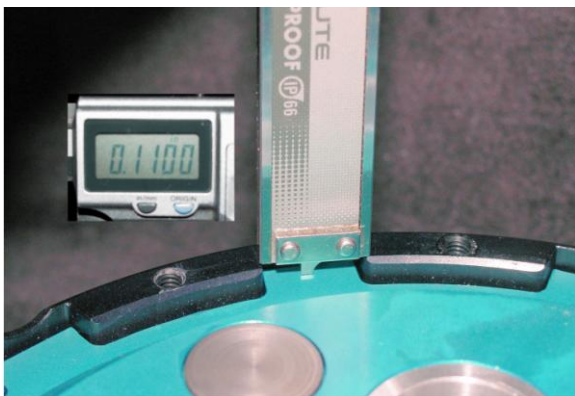
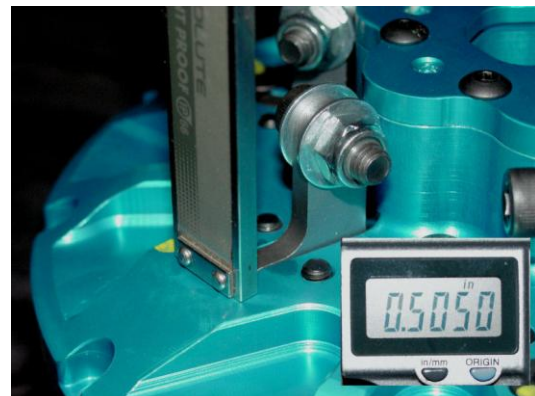

Fig. 1
Fig. 2
- C. Once the basket is in place, replace the hardened steel spacer that goes between the face of the clutch basket and the inner hub with the four (4) piece needle bearing spacer supplied with your unit. **Make sure the needle bearing has a thrust washer on both sides.** Install the modified stock hub. Tighten the locking nut to the factory specification. Check to make sure you have the correct end play on your basket after tightening. If you don't have .003 to .006'' end play clearance, the inner hub will not rotate when the nut on the input shaft is tight. If the basket has too much end play, it could cause damage to the clutch or engine.
- E. Install the friction and metal plates the same way as with the stock procedure, **start with an OEM thick fiber**, then steel, then fiber, then steel, continue until you end with a fiber. The Kawasaki KZ1000 Gen II clutch has (7) steels (7 OEM steels 0.091") and (8) fibers (2 MTC fibers 0.118", and 6 OEM fibers 0.151") plates. The total clutch pack should be approximately 1.779". As of 12/17/12, clutch pack consists of (7) OEM Steels .091" thick, (4) MTC Fibers .118" thick, and (4) OEM fibers .151" thick, approximately 1.719" stack height.
- F. Insert the pressure plate on top of the last fiber. The height from the top of the tang, on the pressure plate to the top of the basket should be approximately 0.110" (See Fig. 1). This will give you an air gap below your arms to the buttons of 0.110".
- G. Place the hat assembly on the basket and tighten the twelve (12) allen head cap screws to secure it.
- H. The air gap between the arms and the pressure plate buttons can be measured using the thin bottom section of a caliper. Stick the caliper rod into the slot opening just behind the arm (See Fig. 2) until it hits the top of the button on the pressure plate. Take a height reading to the top of the Gen II hat, this reading should be between 0.490"-0.510". This gives an air gap of 0.100"-0.120". It is better to start with an air gap of 0.100" to compensate for clutch wear. This technique can be used to maintain the air gap, after repeated runs, without removing any part of the clutch.